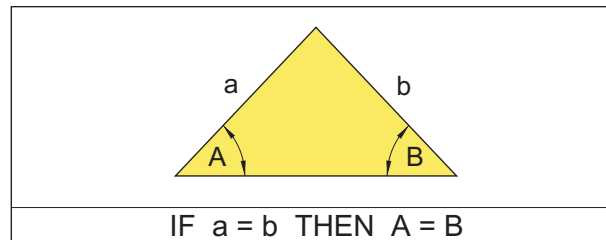

Figure 53-12
*Isosceles* triangle has two sides of equal length. Each side - or leg - is joined by a line called the base. The two angles at the base are always equal - *Figure 53-12*.